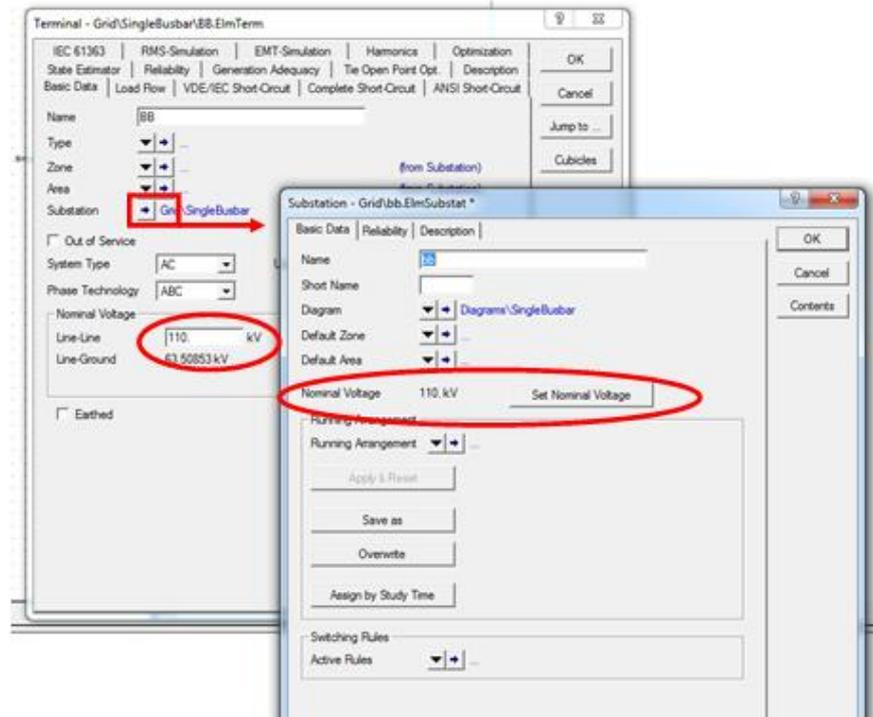

Fig. 15 - The required parameters for busbars
The relevant parameters specified by users for a busbar are (Fig. 15):
**For a load flow calculation to work, the nominal voltages defined for the bus and its substation must be identical** (Fig. 15).